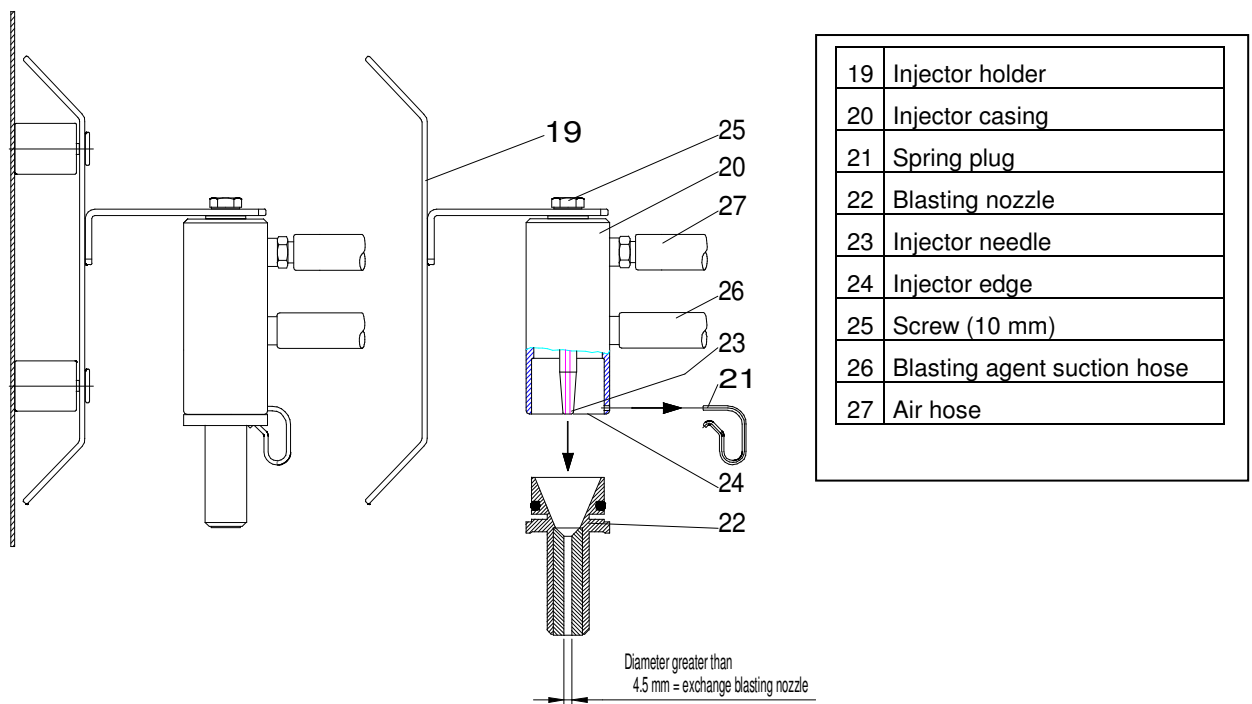

Fig. 4: Disassembling the injector
1. Switch off the unit at the main switch (12) and pull the mains plug!
2. Unhinge the injector holder (19) and take it out of the blasting chamber.
3. Detach spring plug (21) laterally.
4. Pull out blasting nozzle (22) by turning it and by applying counter force to the injector casing (20).
6. Worn-out jets (22) (diameter larger than 4,5 mm) should be removed (see fig. 4 page 14).
7. injector needle (23) should be level with the edge of the injector casing (24). If due to wear and tear the injector needle has shortened by more than 1,5 mm then you should replace the injector.
- Remove screw (25), seal air hose (27) and take out the injector together with the blasting agent suction hose (26).
8. Check the suction basket (31) in the lower part of the sand basin for dirt particles and, if necessary clean it (for further details see “Letting out blasting agent“, section “4.4“).